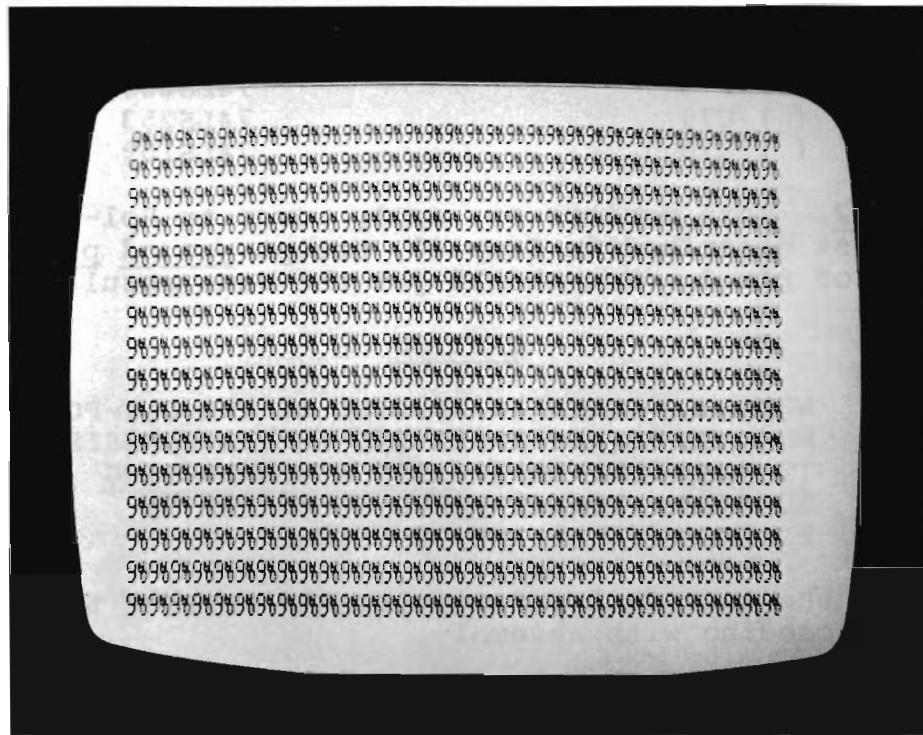

Figure 3-10. CPU Functional Test No. 2 display,
- ( ) Momentarily ground pin 1 of U2 and pin 2 of U75. The display shown in Figure 3-10 on Page III-34 should appear on the monitor.
- ( ) Ground pin 1 of U2. You should see the same display as shown in Figure 3-10 on Page III-34. In this case, however, there should be a vertical "flickering" movement with an apparent flicker rate of approximately three times per second.